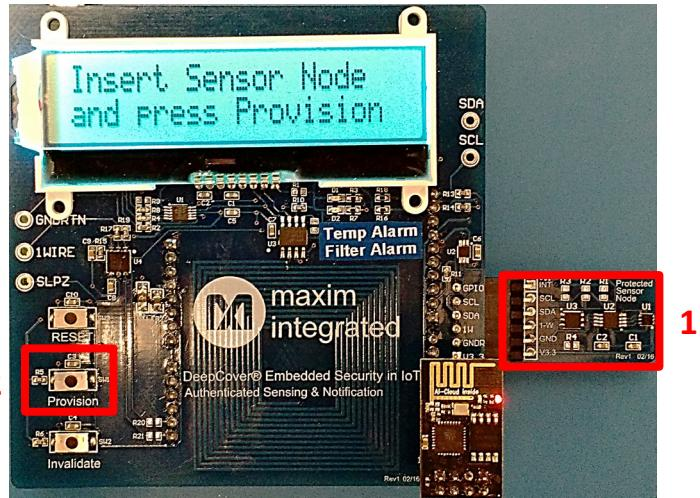

Figure 14. Inserting the Sensor Node.
5. Insert the Sensor Node (1), and then press the **Provision** button (2) to continue (**Figure 14**). A prompt appears if the Sensor Node has never been provisioned. Press the **Provision** button to perform the procedure and continue. The Controller enters **Normal Operation** mode if the Sensor Node was just provisioned or is an existing authentic node. The Controller enters **Sensor Node Not Authentic** mode if the Sensor Node is an existing non-authentic node.